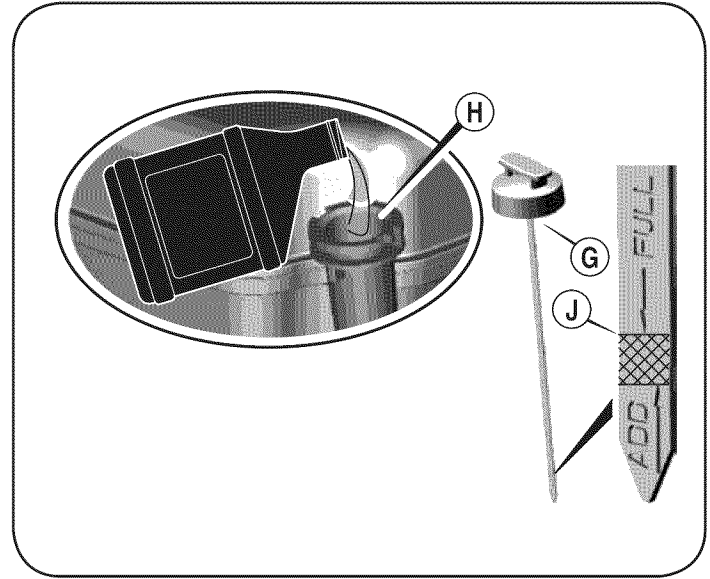

Figure 16
2. Remove the oil fill dipstick (G) and wipe it clean. See Figure 16.
4. If the oil level is near or below the lower limit mark on the dipstick, remove the oil filler cap/dipstick, and fill with the recommended oil (H) to the upper limit mark (J). Do not overfill.